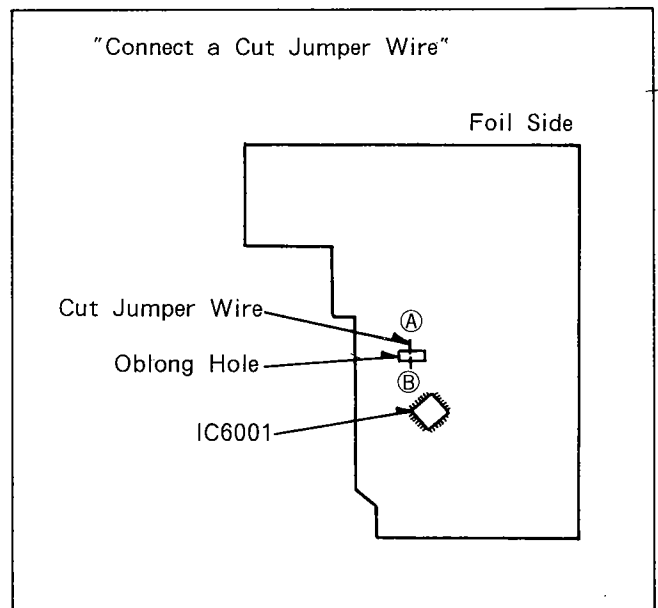

Figure M14
1. Connect a jumper wire between (A) and (B) on the Main C.B.A. as shown in Figure M14.